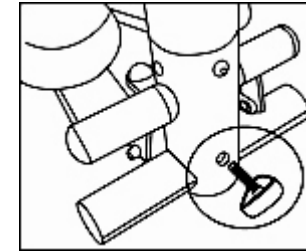

Figure 2
2. Locate the threaded hole on the opposite side on the stepper (see figure 2)